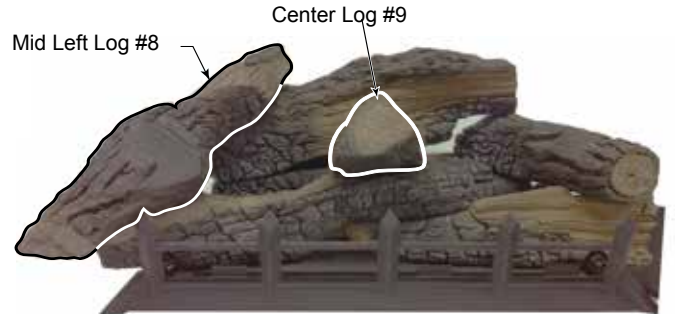

Figure 32
- Place mid left log (#8) on mid rear log (#7) and front bottom log (#5) by placing notches on bottom of log onto locating blocks on log #7 and log #5. *Figure 32*
- Place center log (#9) onto front bottom left log (#5) by placing notch on bottom of log #9 onto locating block on log #5. The flat triangle-shaped end of log #9 should be towards front with pointed end of log resting on bottom rear log (#1). *Figure 32*